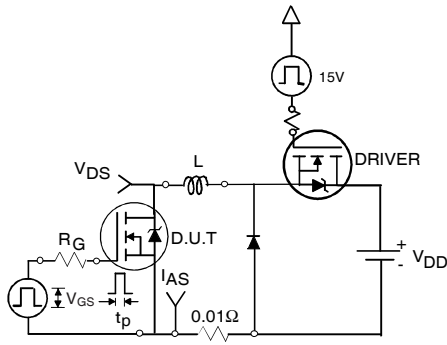

Fig 12a. Unclamped Inductive Test Circuit
3. Equation below based on circuit and waveforms shown in Figures 12a, 12b.
- ③ Pulse width $\leq 1.0\text{ms}$; duty cycle $\leq 2\%$.
- ④ C_{OSS} eff. is a fixed capacitance that gives the same charging time as C_{OSS} while V_{DS} is rising from 0 to 80% V_{DSS} .
- ⑤ Limited by T_{Jmax} , see Fig.12a, 12b, 15, 16 for typical repetitive avalanche performance.
- ⑥ This value determined from sample failure population. 100% tested to this value in production.
- ⑦ When mounted on 1" square PCB (FR-4 or G-10 Material) . For recommended footprint and soldering techniques refer to application note #AN-994
- ⑧ R_{θ} is measured at T_J approximately 90°C